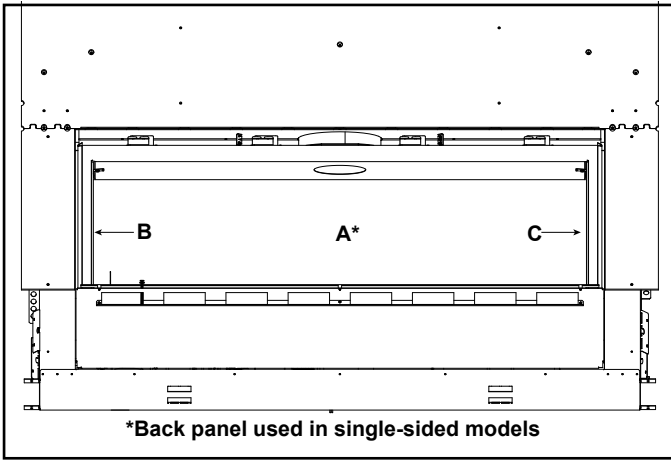

Figure 1 Placement of Glass Panels
1. Set back glass panel, labeled A in Figure 1, into firebox on top of the two back glass spacer blocks, with the smooth side of the glass facing outward. Position the retaining bracket inside appliance as shown in Figure 3. Line up the hole in the heat shield with the hole closest to the bend in the bracket and secure in place with a screw. See Figure 2 and Figure 3.
4. Install the left side panel, labelled "B" in Figure 1, by sliding it into place from the front. While installing, press the panel firmly against the firebox side.
1. Set left side glass panel, labeled B in Figure 1, into firebox with the smooth side facing outward.